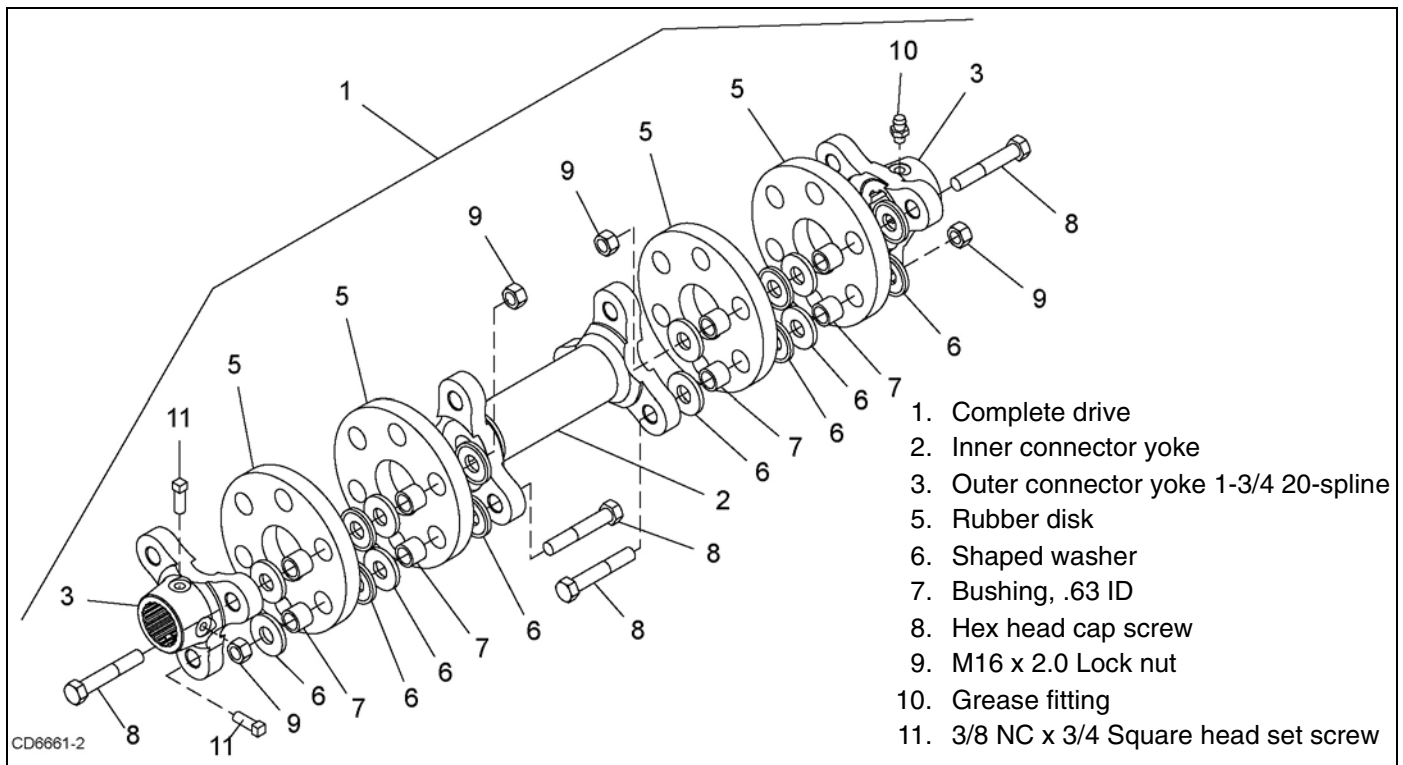

Figure 14. Flexible Coupler
To replace the disks, remove hardware items 6, 7, 8, and 9. Remove sleeves (7) from old disk and install in new disk. Reassemble and torque bolts to 85 lbs-ft. See Figure 14. Take special care not to rotate gearbox shaft and throw blades out of time. If rubber disks have failed and blades are hitting, you will need to re-time the blades per instructions on page 36.